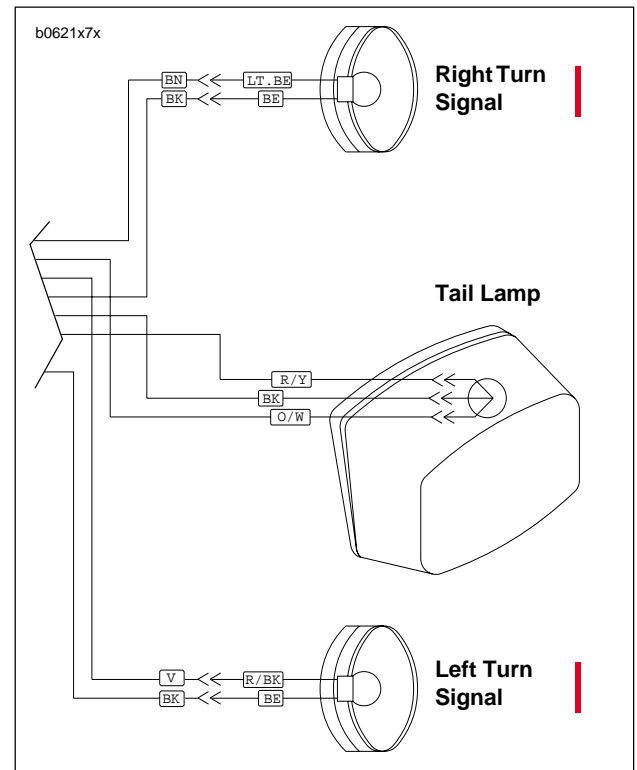

Figure 7-45. Rear Turn Signal Connections
3. See Figure 7-45. Disconnect bullet connectors on turn signal wires.
2. Attach bullet connectors on turn signal wires as shown in Figure 7-45.